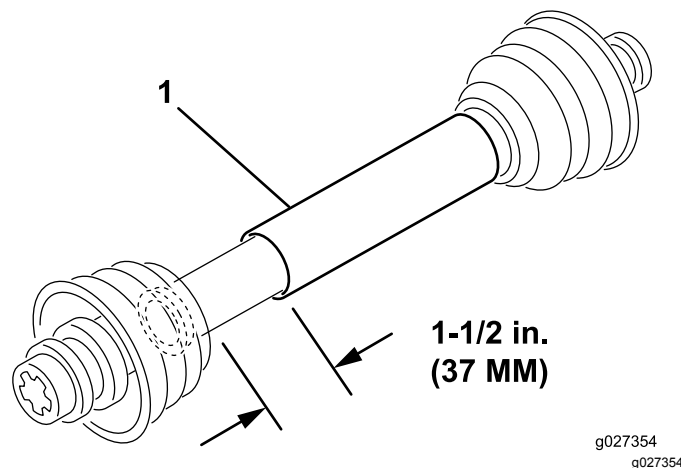

Figure 2
3. At its shortest length, the 2 halves of the PTO shaft must have at least 37 mm (1-1/2 inches) of additional clearance to collapse (Figure 2).